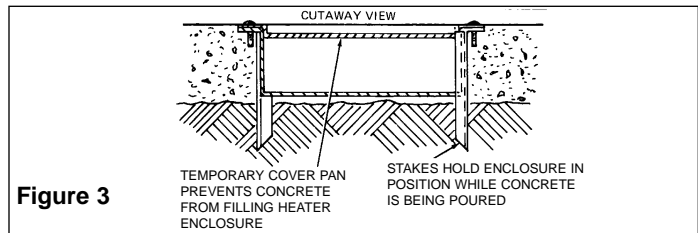

Figure 3
2. Drive the stakes into the subgrade to support the enclosure at the required location (at least 6" (152mm) from wall) with the level with the grade of the finished concrete slab (see Figure 3).